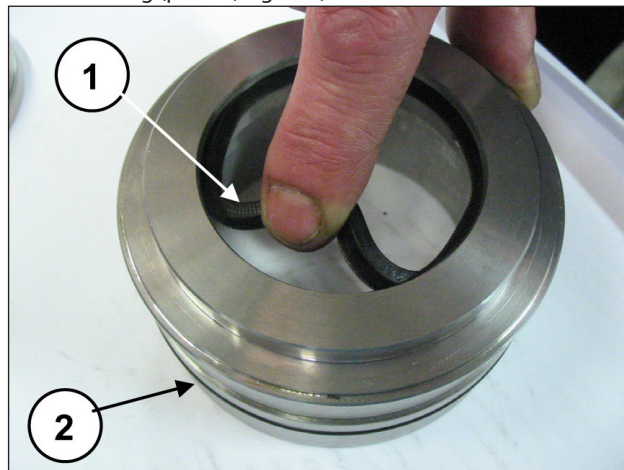

Fig. 200
Insert the low pressure seal in the KC seals support (pos. ①, Fig. 200) paying attention to the mounting direction which requires that the sealing lip be set forward (towards the head) and the O-ring (pos. ②, Fig. 200).